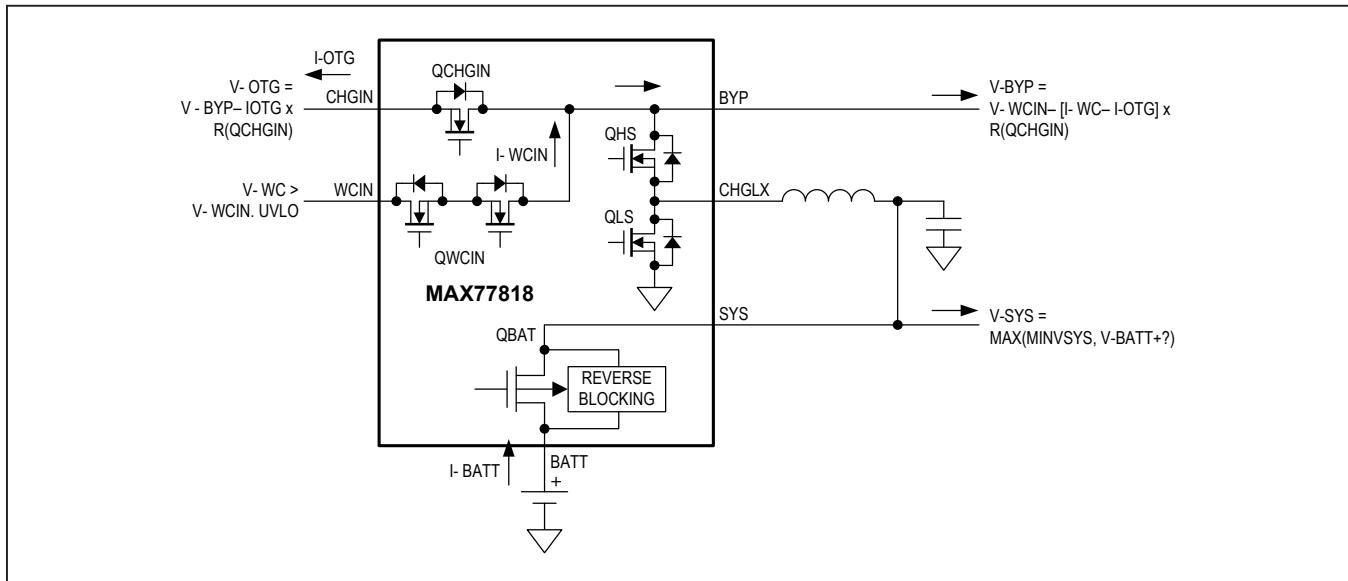

Figure 15. No Change Buck (OTG)
**No Change Buck (OTG), MODE = 0x0E:** Wireless charger is detected within the input voltage operating range (QWCIN = on) and OTG is active (QCHGIN = off). Battery is connected in charge mode (QBAT = on), and charger is operating in buck mode. See Figure 15.